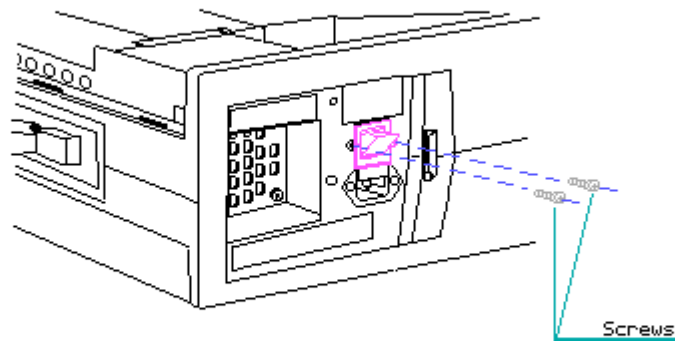

Figure 7.8-4. Removing the COMPAQ Portable Power Switch Filter Assembly
2. Remove the two screws that are holding the power switch filter assembly (Figure 7.8-4).